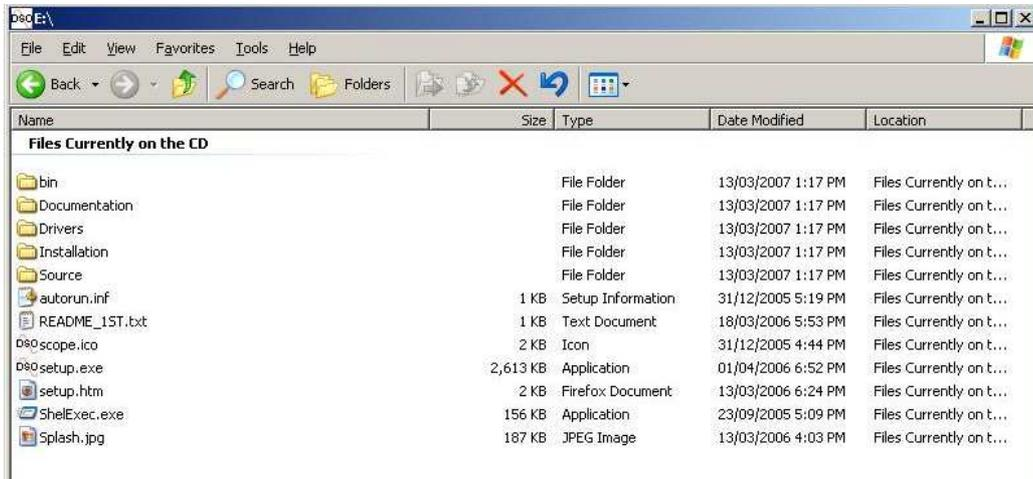

Figure 31: CD Directory
Start up your web browser and double-click on File -> Open File... Move to the CD drive and open it. You should see a listing like figure 31.
2. Double click on setup.exe (figure 31) to run it.
- If that still doesn't happen, right click on the installation CD entry of figure 30. This should bring up a directory listing of the installation CD, somewhat like figure 31. Double-click on `setup.htm`. This should bring up the install screen of figure 29.
- If that fails, start up your web browser and double-click on `File -> Open File...` Move to the CD drive and open it. You should see a listing like figure 31. Double-click on `setup.htm`. This should bring up the install screen of figure 29.